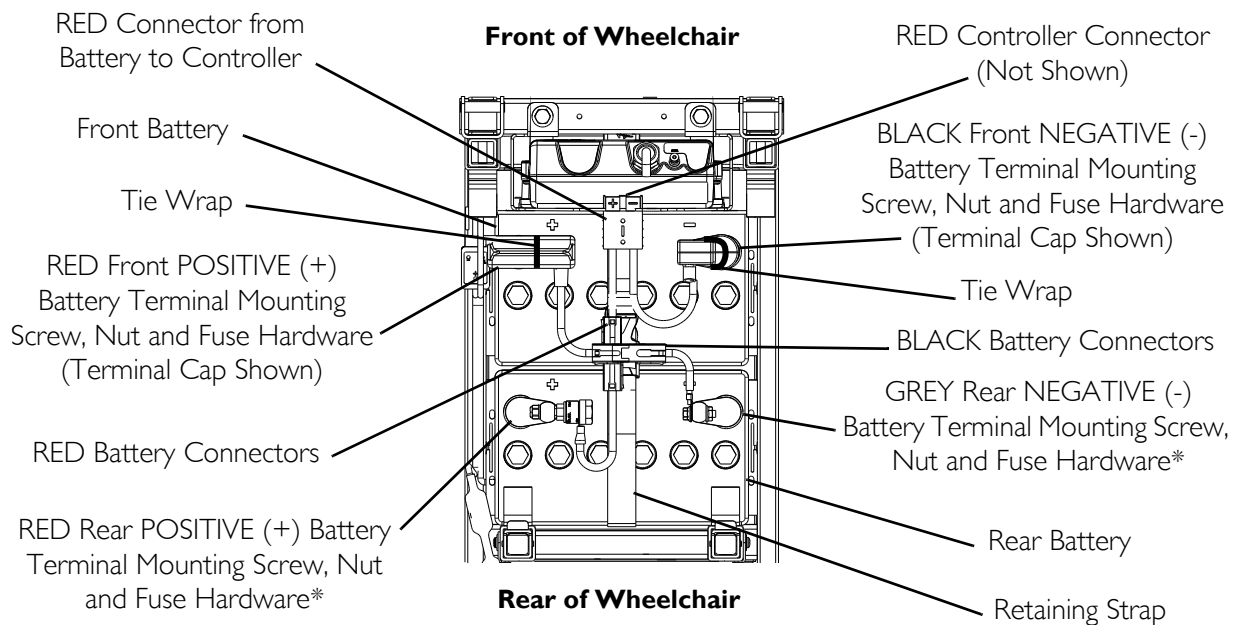

FIGURE 11.2 Installing/Removing the Batteries
NOTE: For this procedure, refer to FIGURE 11.1 on page 107 and FIGURE 11.2 on page 108.
11. Connect the front battery to the controller (RED connector). Refer to FIGURE 11.2 on page 108.
12. Connect the rear battery to the front battery (RED and BLACK connectors). Refer to FIGURE 11.2 on page 108.
6. Disconnect the front battery from controller (RED connector). Refer to FIGURE 11.2.
8. Disconnect the rear battery from the front battery (RED and BLACK connectors). Refer to FIGURE 11.2.